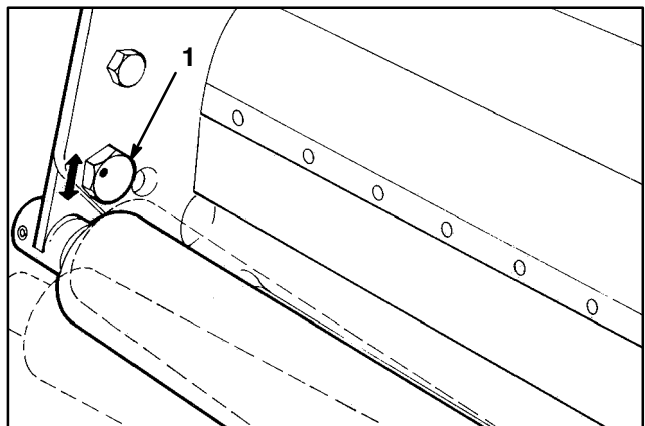

Figure 6
7. While holding reel securely on plate, level roller by rotating lower left roller pivot bolt. The pivot bolt has an offset thread which when rotated, acts as a cam to raise or lower the roller. On the bolt head there is an identification dot (Fig. 6) which denotes the offset of the bolt. Dot indicates in which direction left end of roller moves when bolt is turned.